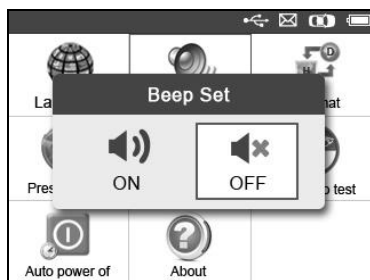

Figure 2.4
- 2) From **Beep Set** menu, use the **LEFT/RIGHT** scroll button to select **ON** or **OFF** to turn on/off the beep.(Figure 2.4)